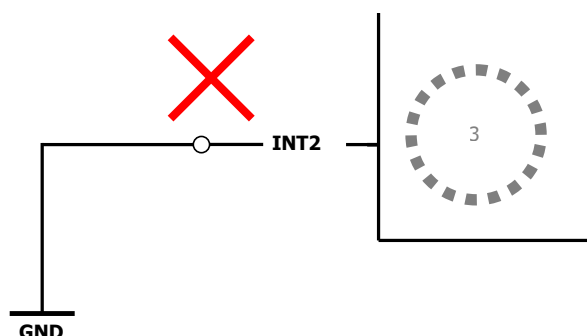

Figure 50: Connection that is not allowed in I²C and I³C before the pin 3 is configured to the output characteristics
- When the output characteristics of pin 3 is disabled (or not yet enabled), please do not connect pin 3 to ground, as shown in figure 50.